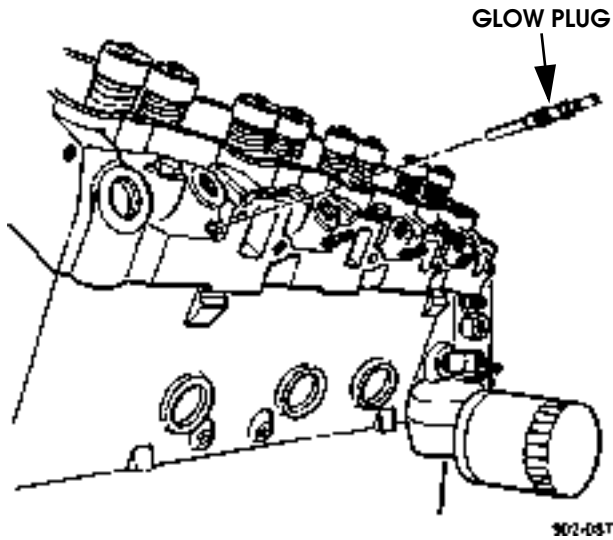

Figure 2-178: Glow Plug Installation
1. Install glow plugs in each cylinder head (Figure 2-178). Tighten plugs to 8-12 lb-ft (11-16 N•m).